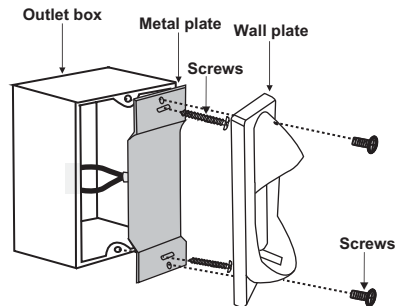

Figure 18
Step 2. Install the metal plate and wall plate to the existing wall outlet box with 4 screws provided. (Fig. 18)